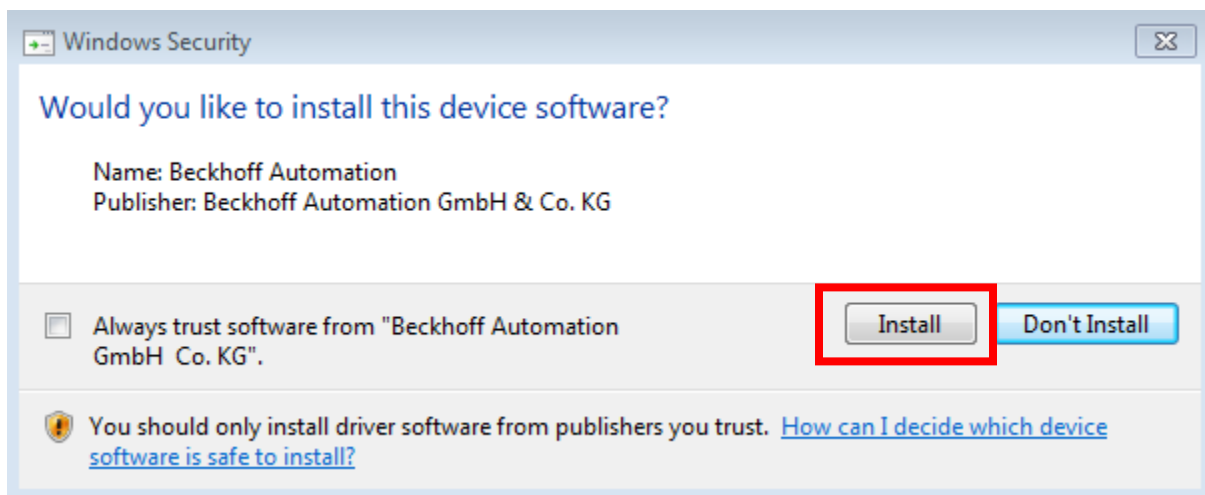

Figure 6: Installation of drivers request
9. The installer will ask your permission with a screen similar Figure 6 two more times. Please click 'Install' every time to continue.